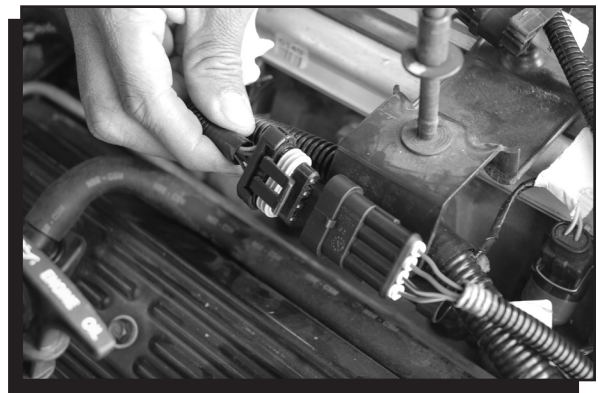

Figure 11 Distributor Connector.
21. Route the new wiring harness to the top of the intake and plug in the connector (Figure 11).